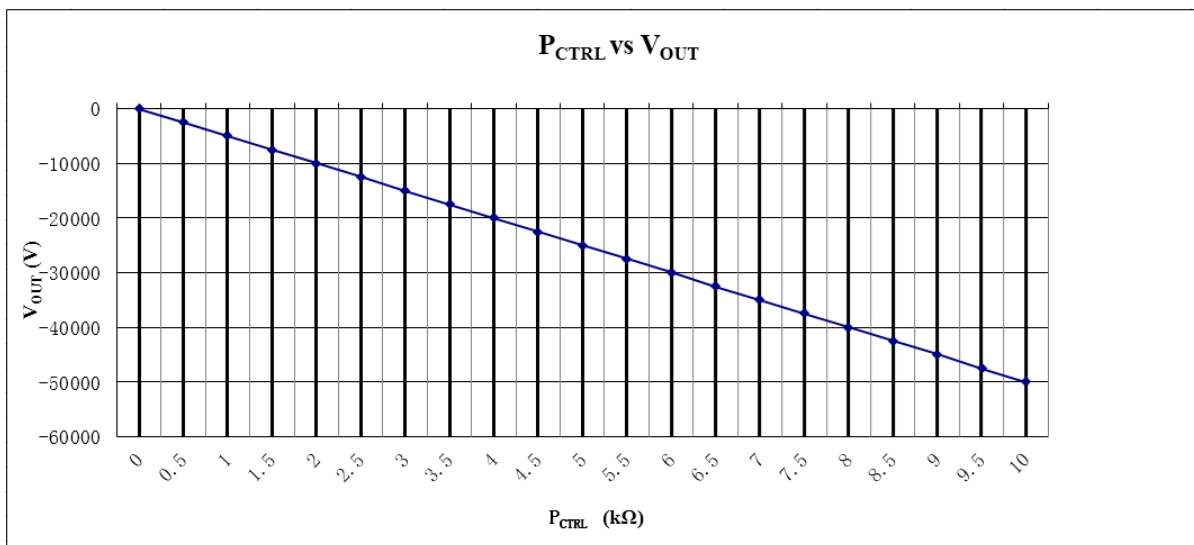

Figure 4.  $P_{CTRL}$  vs.  $V_{OUT}$
5. HV adjustment: 10-turn potentiometer for adjusting output voltage. Rotate it clockwise to increase the output voltage, and the potentiometer resistance = the corresponding scale  $\times 10\Omega$ . For example, as Figure 4 shows, when the scale is 10, and the frame above the scale shows 1 (1k $\Omega$ ), then the resistance =  $10 \times 10\Omega + 1k\Omega = 1.1k\Omega$ , and the like.